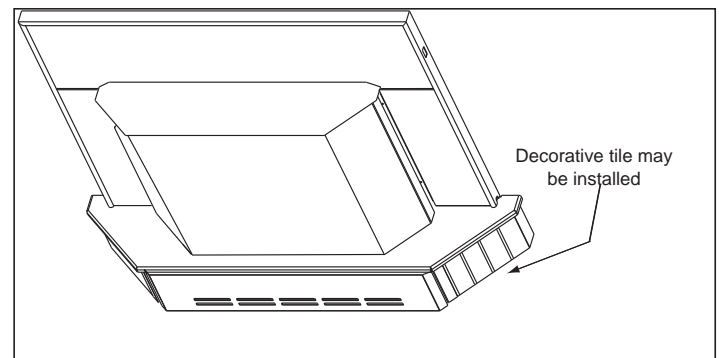

Figure 22.3
**NOTE:** 3/8" ( 9.5mm) thick tile or like material can be cut to size and fit under lip of top trim edge for a decorative touch. **Figure 22.3.**